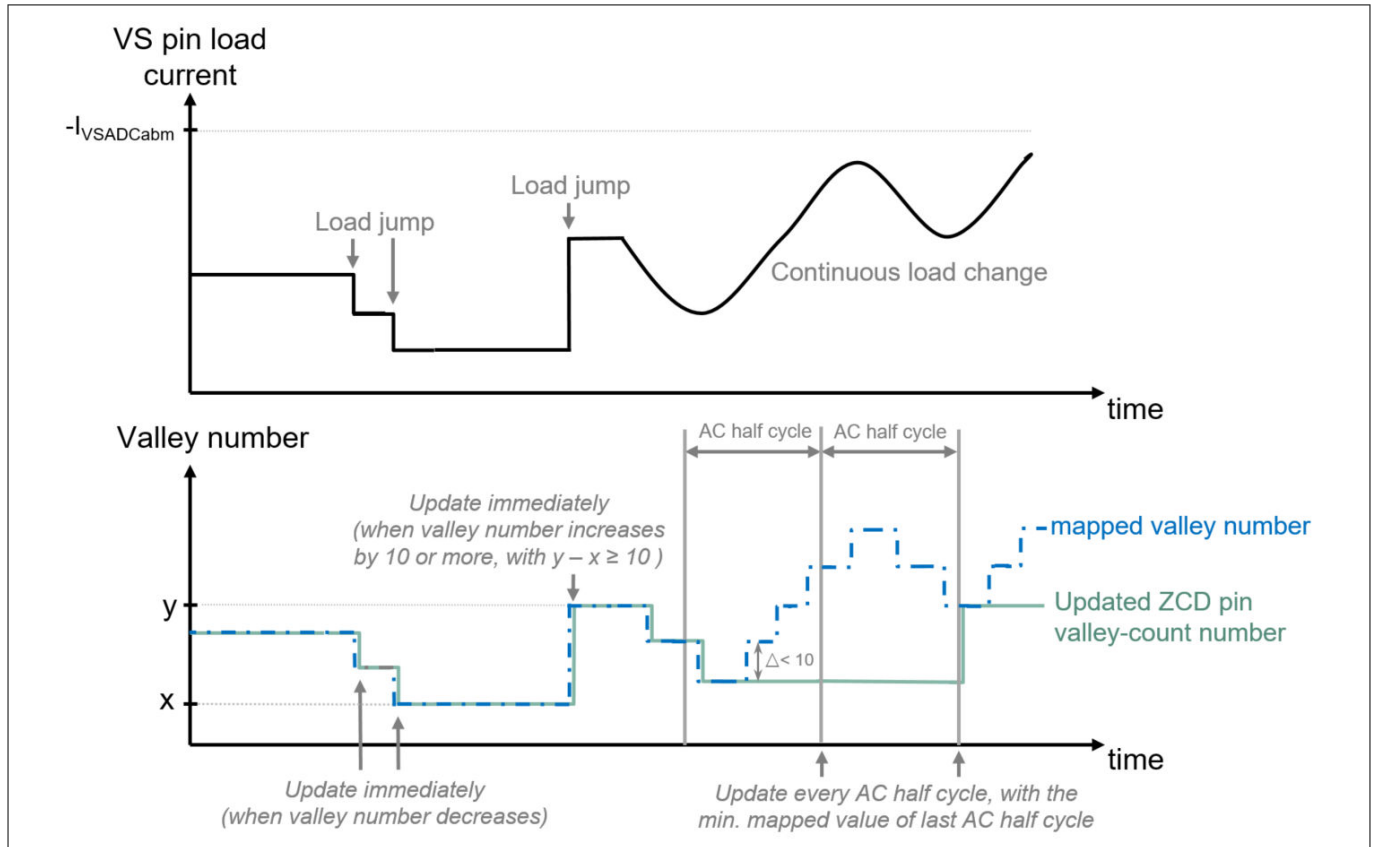

Figure 16 Illustrative example of the QRM valley selection hysteresis mechanism
1. To minimize the multiple valley changes within one AC half cycle, ICL8830 updates the ZCD valley-count number once every AC half cycle, based on the lowest mapped valley number from the last AC half cycle, as shown in Figure 16. During each AC half cycle, the controller adjusts the on-time to stay in the selected valley number. In this way, the number of valley jumps is limited to a minimum.
2. When a load jump happens, if the valley number has to be decreased, it happens immediately. For the case of valley number increase, if the load jump results to a valley number increase by 10 or more, it happens immediately. Otherwise, the change happens only at the start of the next AC half cycle, as shown in Figure 16.